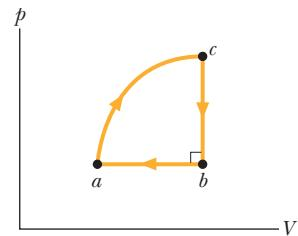

Figure 18-54 Problem 75.
**75** Figure 18-54 displays a closed cycle for a gas. From  $c$  to  $b$ ,  $40 \text{ J}$  is transferred from the gas as heat. From  $b$  to  $a$ ,  $130 \text{ J}$  is transferred from the gas as heat, and the magnitude of the work done by the gas is  $80 \text{ J}$ . From  $a$  to  $c$ ,  $400 \text{ J}$  is transferred to the gas as heat. What is the work done by the gas from  $a$  to  $c$ ? (Hint: You need to supply the plus and minus signs for the given data.)